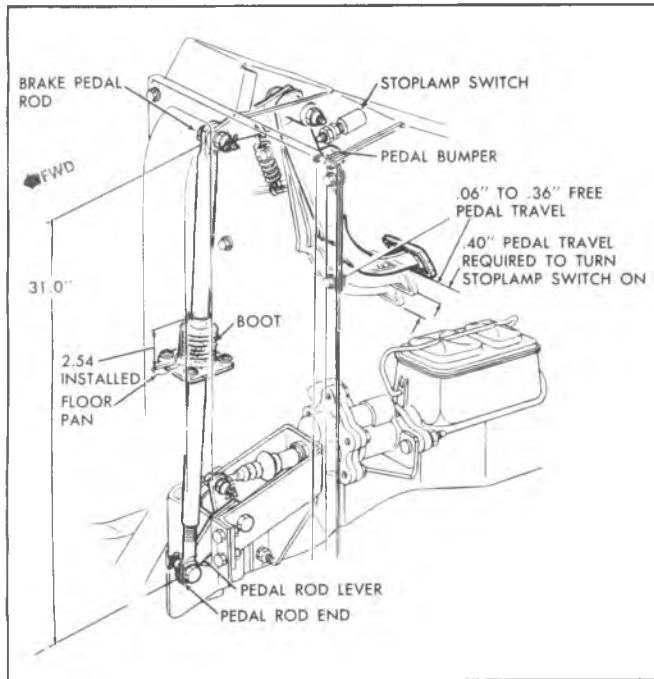

Fig. 5-13--Brake Pedal and Stop Lamp Adjustment P30(32) Model
Replacement (Fig. 5-13)
11. Fasten the boot to the floorpan and compress the boot to 2.54" (65 mm) installed height; tighten the boot to 2.54" (65 mm) installed height; tighten the boot screws to 13-18 lb. in. (1.5 - 2.0 N·m). (Refer to Figure 5-13).